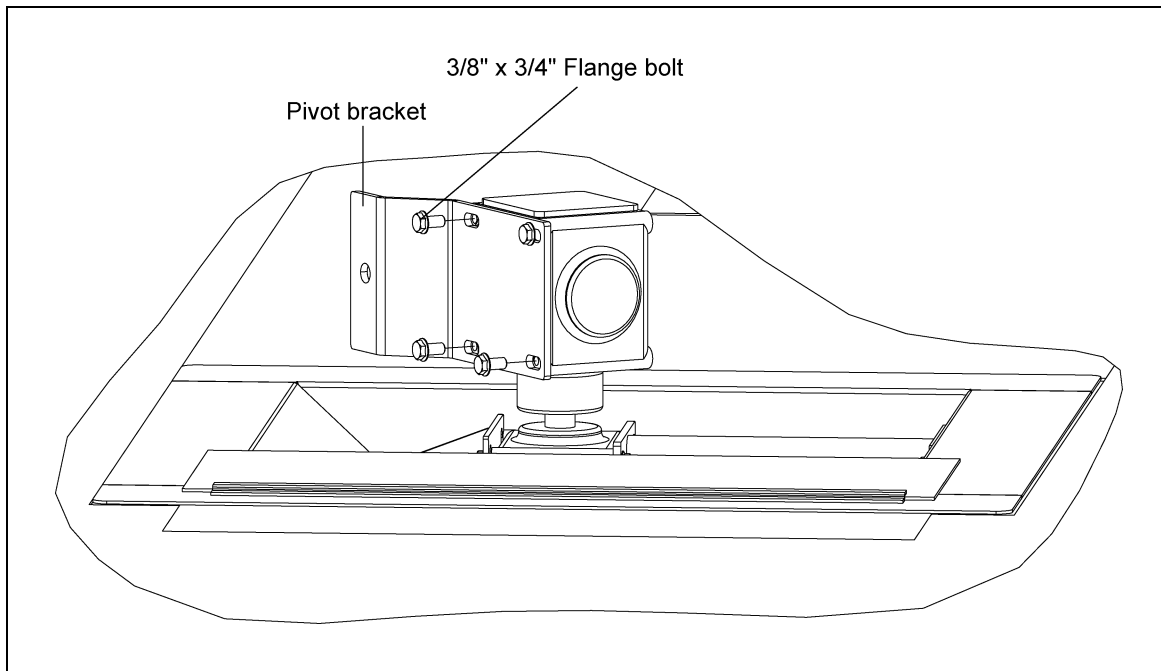

Figure 4Y
3. Attach the pivot bracket to the left side of the gearbox using four (4) 3/8" x 3/4" flange bolts. (See Figure 4Y.)